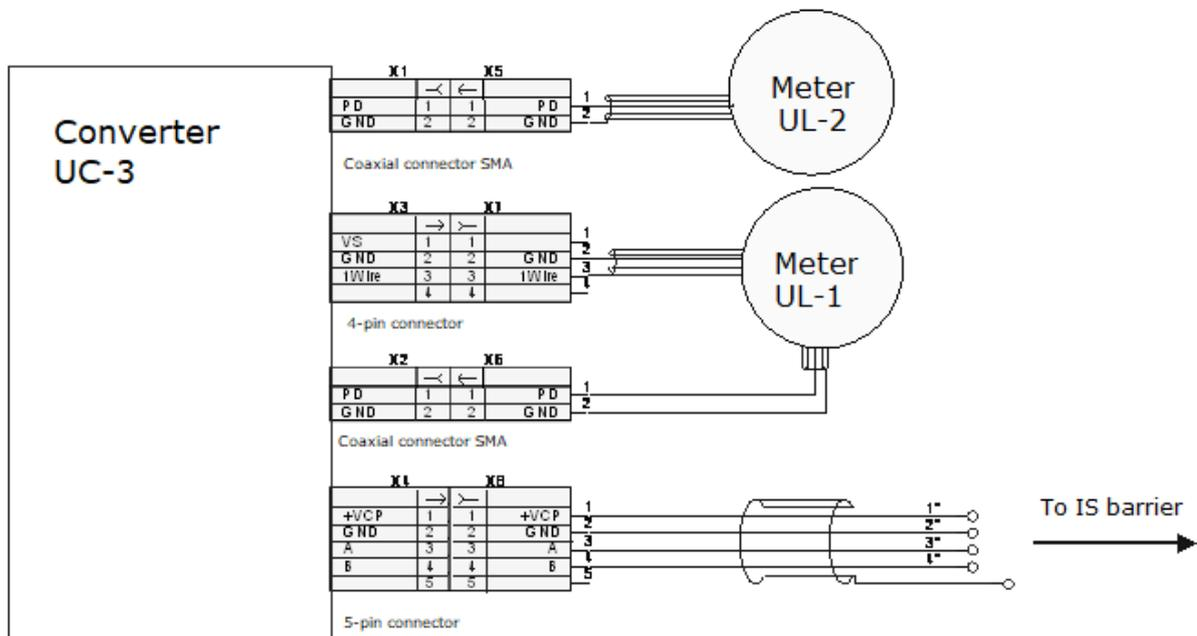

Fig. 2 - Connection diagram of the AlphaSonic-20 model transmitter
- **AlphaSonic-20** – 1 meter with a temperature transmitter, 1 meter without a temperature transmitter and a converter (Fig. 2);